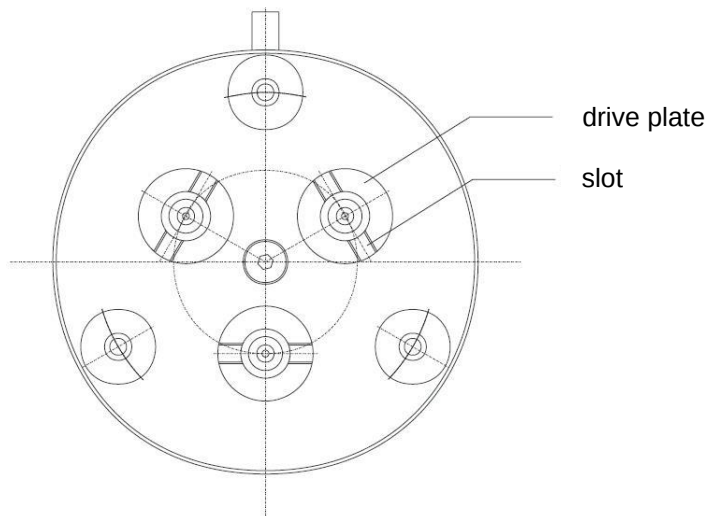

Figure 16: Radial rolling head E with tensioned spring mechanism (top view without front plate)
The tensioned rolling head can be recognized by the fact that either the driving lugs of the synchronous gears (5) are aligned radially or the grooves of the driving discs (12) or the flattening of the rollers are aligned tangentially, see Figure 16.